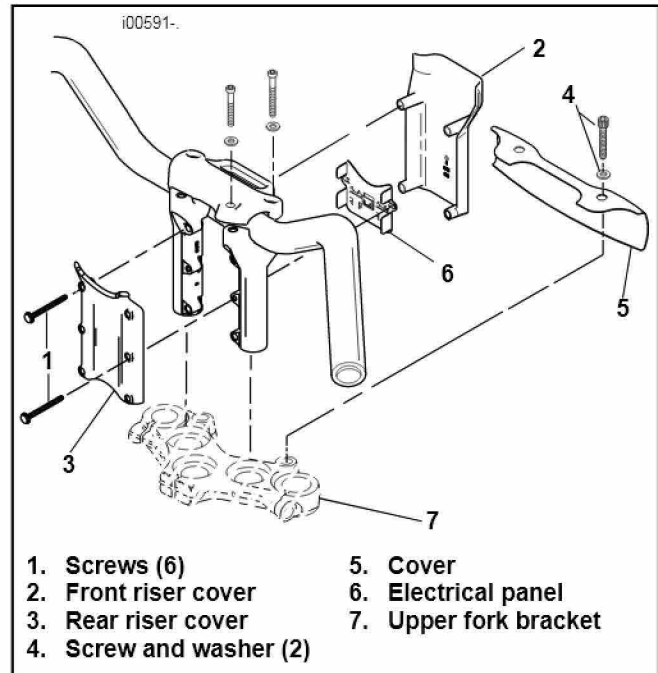

Figure 1. Removing Riser Covers
2. See Figure 1 and Service Parts Illustration. Remove the two handlebar clamp screws that are farthest from the rider. Place the spacers (8) into the counterbores where the two removed handlebar clamp screws came from, then place tachometer bracket (9) in place over handlebar clamp.